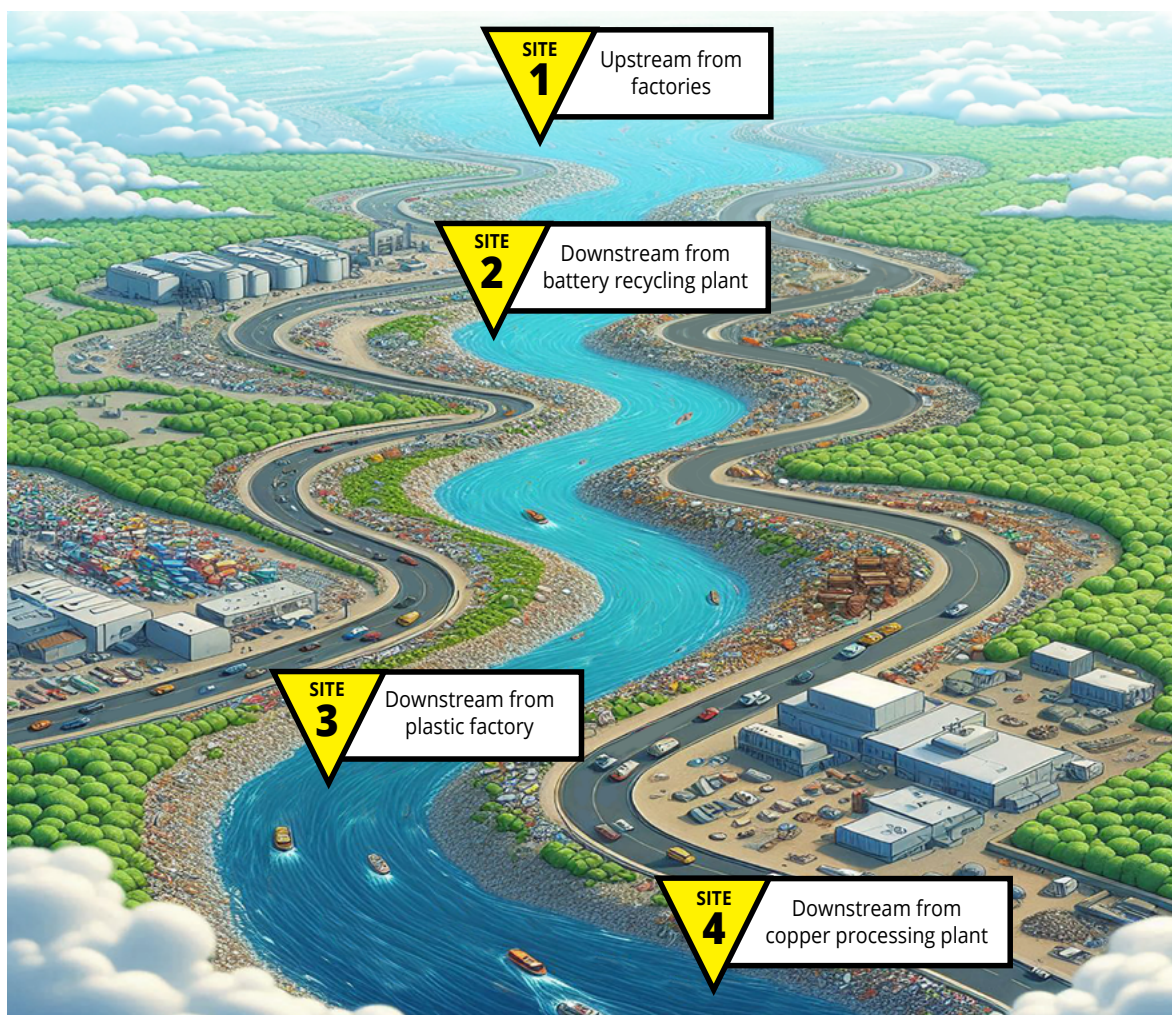

Figure 9: River sites to be tested
To determine whether factories on the riverside are to blame for the decline in the river's species diversity and drinking water quality, the EPA investigators identified four different river sites to be sampled and tested, as follows (Figure 9):
- Using a marker, **LABEL** all of the microcentrifuge tubes with the sample identity and the assay reagent, as indicated in the Table 1, below. The samples were collected at four separate locations (1-4) along the river (see Figure 9 on page 8), plus there are positive (P) and negative (N) controls. Each sample and the controls will be tested for the presence of Lead (A), BPA (B), and Copper (C).